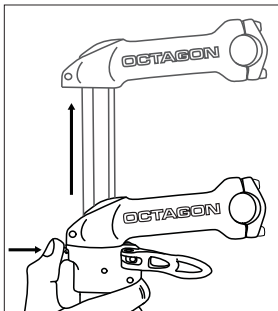

Fig. 28: Push adjustment button and raise stem
2. Depress the adjustment button with one hand while grasping the stem with the other. While continuing to hold the adjustment button, raise the stem to the desired height (Fig. 28).